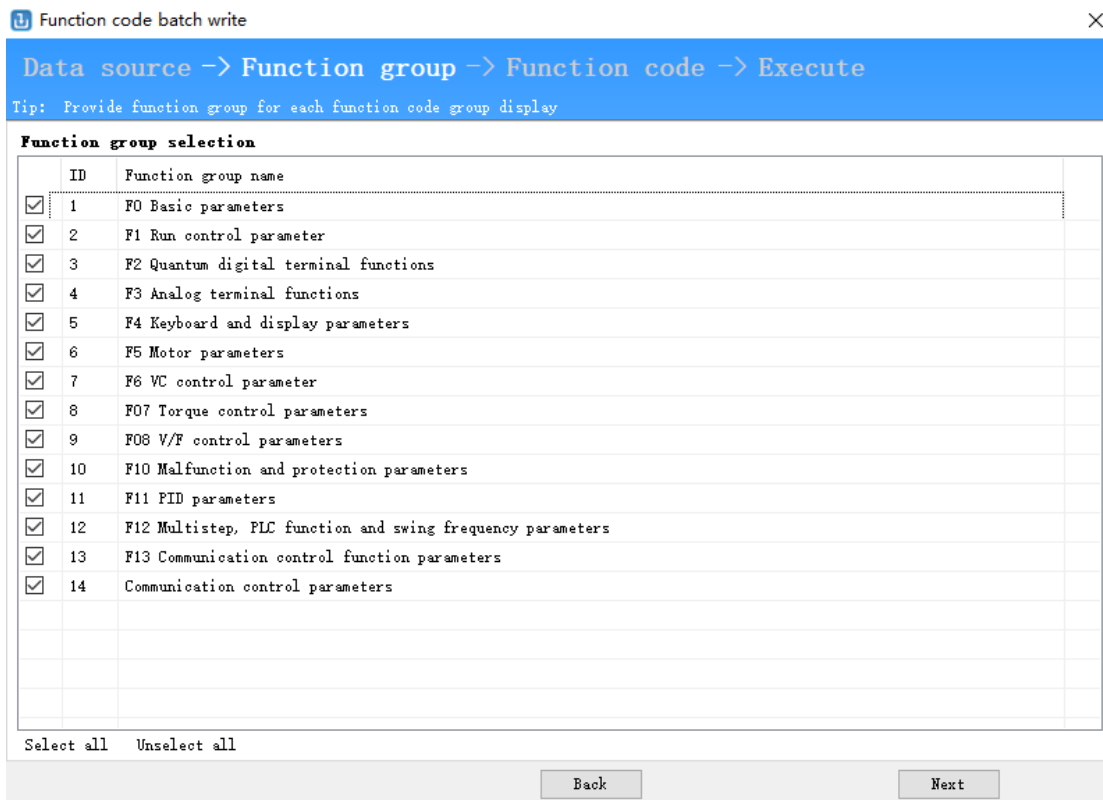

Figure 10
- Data source selection [current function code list] -> [Next], as shown in figure 10 as below: